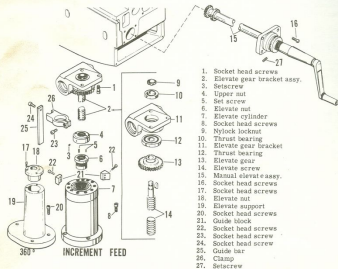

Figure 7. Knee Elevate Mechanism (360°) And Increment Feed)
To remove these bearings (10 & 12, figure 7) follow the procedure for removing the elevate feed screw. The bearings can then be removed from the elevate gear bracket.
26. ELEVATE FEED SCREW 360° (figure 7)
3. Take out the four screws (16) holding the manual elevate assembly (15) and slide out the complete assembly.
4. Remove the three screws (1) holding the elevate gear bracket assembly (2) in knee. These screws can be reached through access hole in bottom of knee.
5. Rotate the elevate screw counterclockwise (looking down from top) by hand until elevate gear bracket (2) assembly approaches bottom surface of knee.
6. Remove the three screws (20) holding elevate support (19) to column. The elevate screw bracket assembly (2), support (19) and elevate nut (18) can then be swung to the side and pulled out of the knee.
7. To remove the elevate feed screw (14) from the elevate gear bracket (11) unscrew the Nylock lock nut (9) and tap out the feed screw.
8. Remove the feedscrew (14) and elevate nut (18) from the elevate support (19) by removing the three screws (17) holding the nut to the support.
27. ELEVATE FEED SCREW AND VERTICAL HYDRAULIC CYLINDER (INCREMENT FEED) (Figure 7)